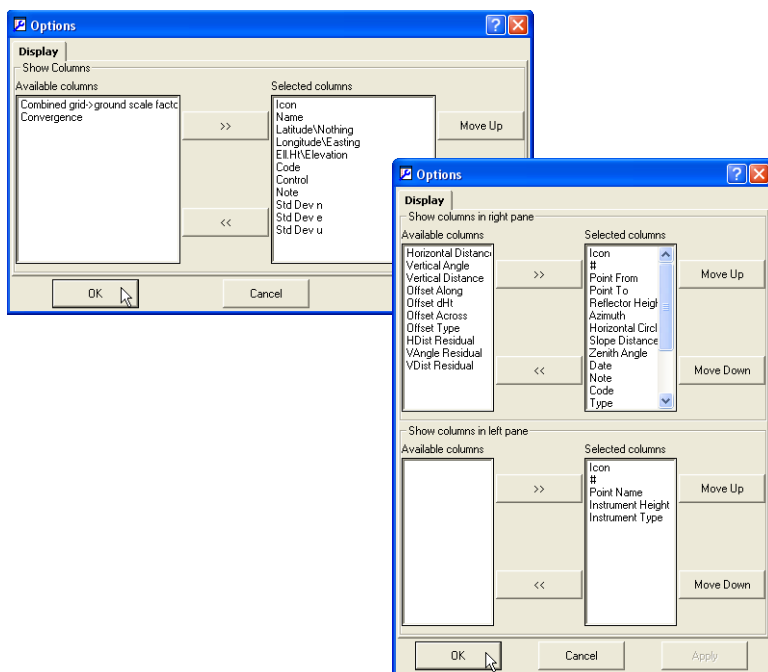

Figure 4-47. Example Tab Options for Points and TS Obs
2. Select and arrange the desired columns (Figure 4-47).